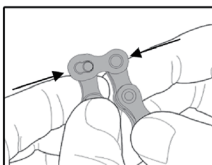

Fig.5
2. Firmly squeeze the link bushings together so that the pins and plates decouple. (Fig.5)